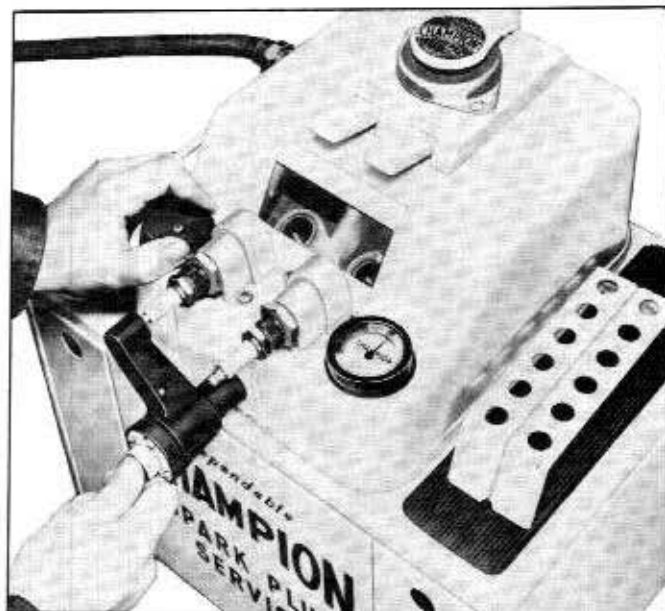

Fig. 9-42—Testing Spark Plugs—(LMOM-1474)
1. Install spark plugs in tester and attach high tension lead to the plug. See figure 9-42.